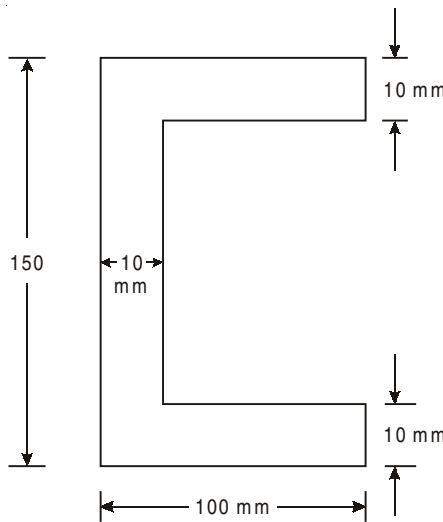

Fig. 4
5. Locate the shear centre with sketch for the section as shown in Fig. 4.